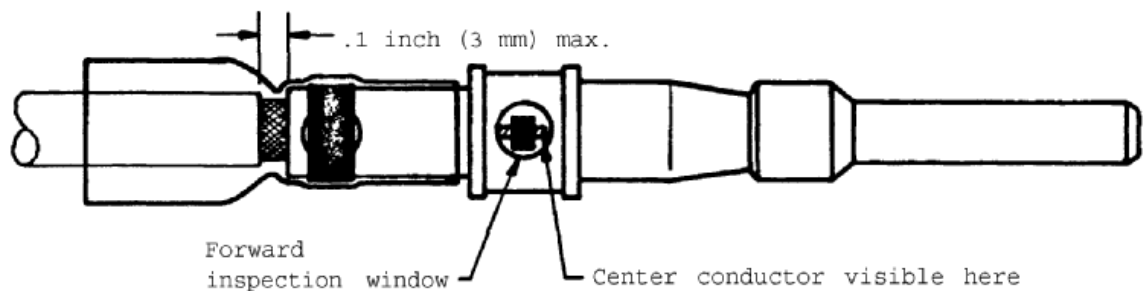

FIGURE 5
- 5.2.2 Inspect for proper insertion. (See Figure 5.)